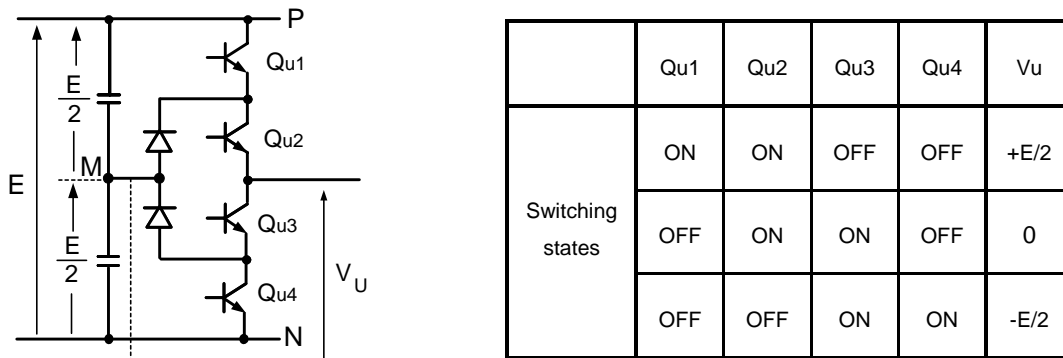

Figure 2. Relationship between the switching states of the IGBTs and the resulting output phase voltage
Taking phase U as an example, the behavior of the 3-level inverter is described in Figure 2. The circuit behaves in the following manner. When IGBTs QU1 and QU2 are turned on, output U is connected to the positive rail (P) of the DC bus. When QU2 and QU3 are on, it is connected to the mid-point (M) of the DC bus, and when QU3 and QU4 are on, it is connected to the negative rail (N). Thus, the output can produce three voltage values compared to two values for the conventional 2-level topology. The relationship between the switching states of the IGBTs
and the resulting output voltage with respect to the DC bus mid-point is summarized in the table in Figure 2.